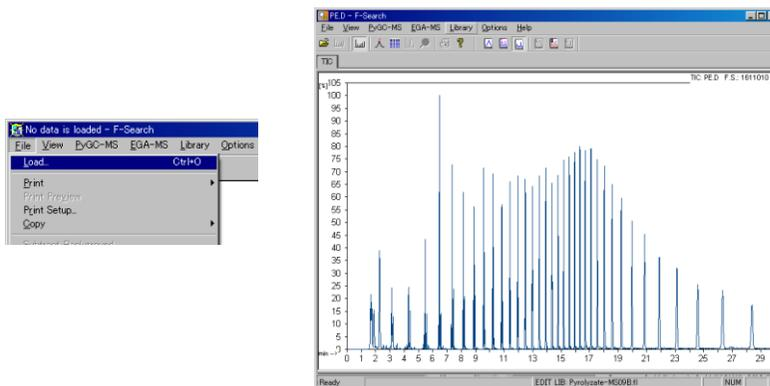

Fig. 5-2 Loading an MS data file and displaying a chromatogram
- (2) As shown in Fig. 5-2, select [File] - [Load]. Then choose an MS data file in the window displayed, and press [OK] button. A chromatogram/thermogram will be displayed.